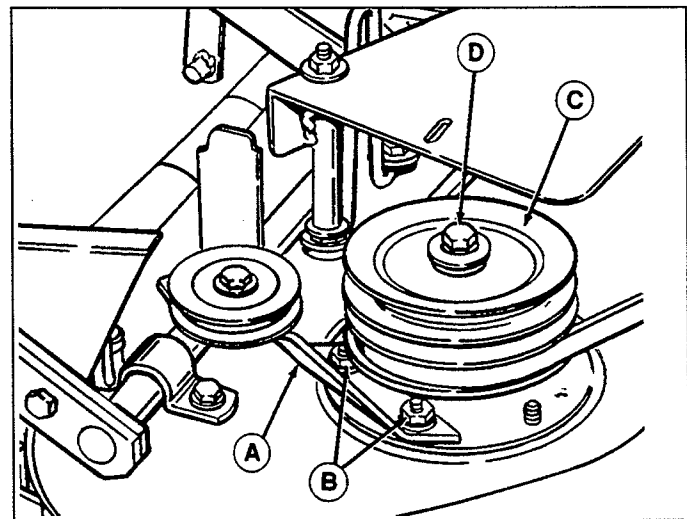

Figure 4.
7. See figure 4. Position the pulley bracket assy. on the 7/8 capscrews installed in step 6. Secure with two 5/16-18 whizlock nuts. Install the double groove pulley (C) to the arbor shaft. Reinstall the lockwasher, and large flat washer removed in step 5 and secure with a new capscrew (D). Torque capscrew to 50-70 ft.-lbs.(68-76 Nm).